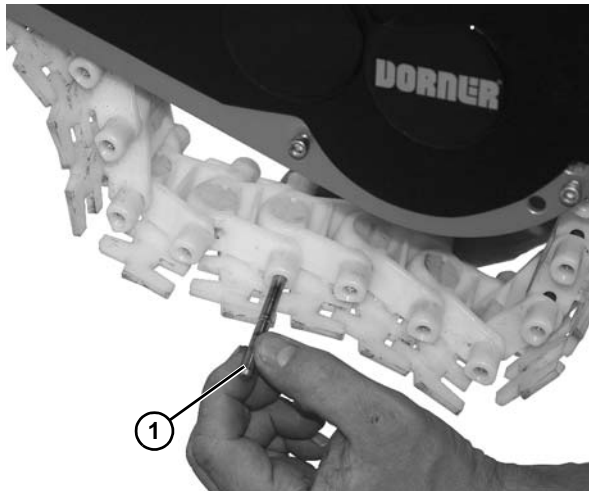

Figure 164
- Use a punch and hammer or belt removal tool #203480 to push the belt rod (Figure 164, item 1) out by striking the rod end.